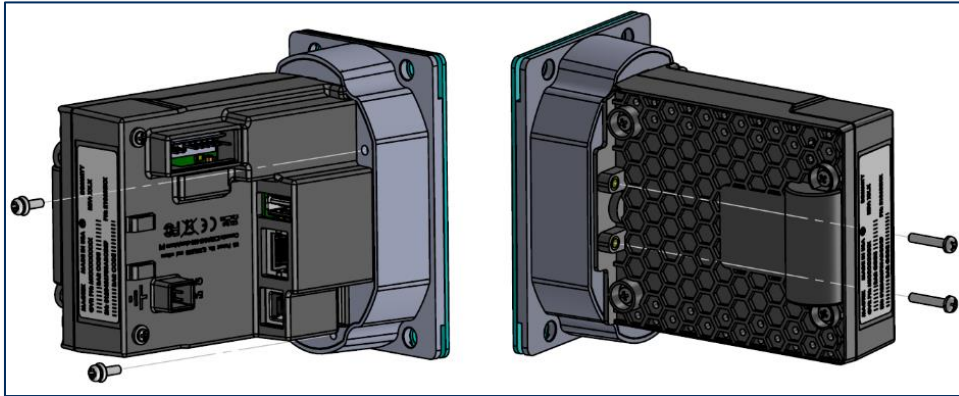

Figure 7-1 - Removing Bezel Screws
- 2) Remove the screws that hold the bezel to the device body, as shown in **Figure 7-1**.